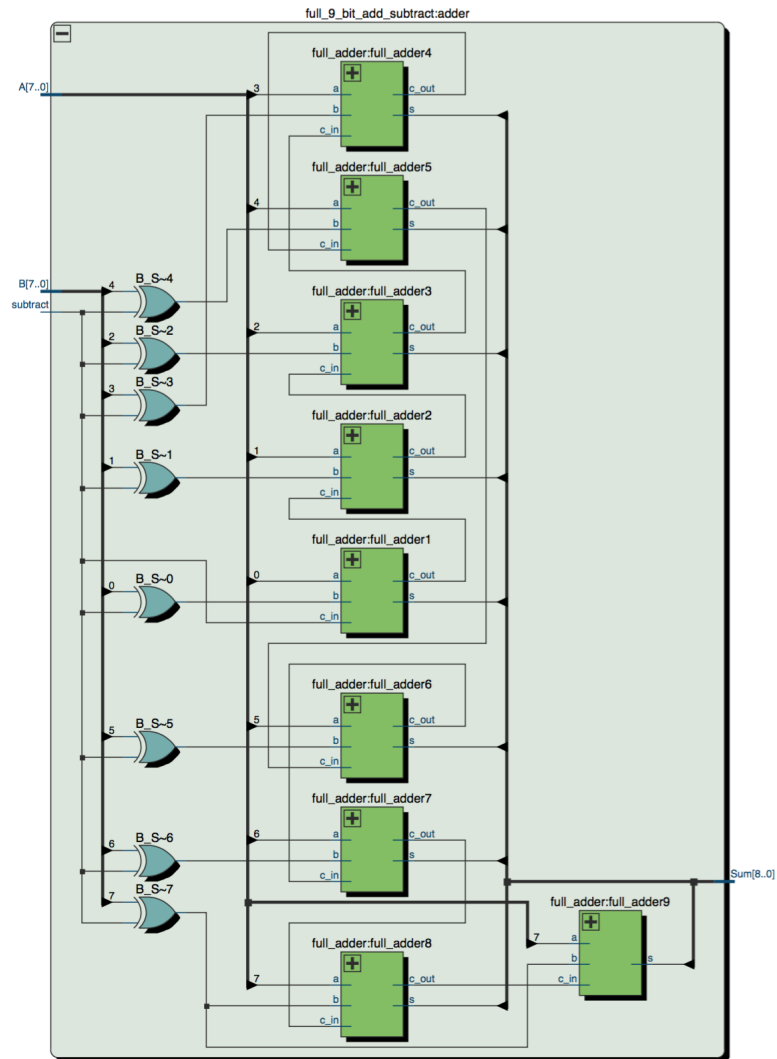

Fig. 7: Full Adder and Subtractor Block Diagram
- Full Adder/Subtractor - Figure 7